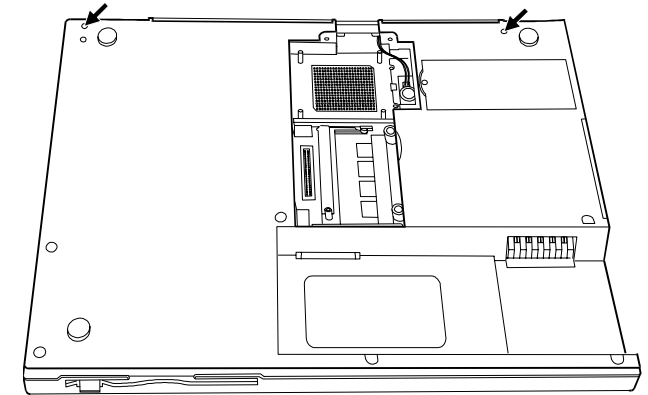

Figure 5-34. Removing Two Bottom Screws
3. Replace two bottom screws fastening the system board. (Refer to Figure 5-34 earlier.)